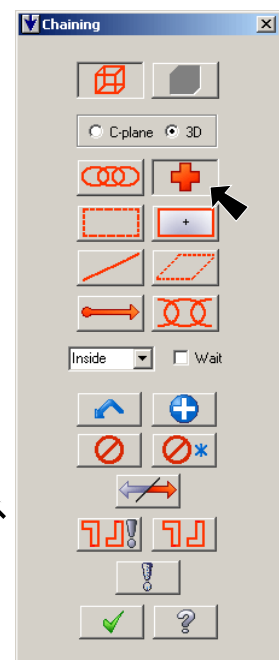

Fig. 27
Step 4. Click Point  (T) in Chaining dialog box, **Fig. 27**.